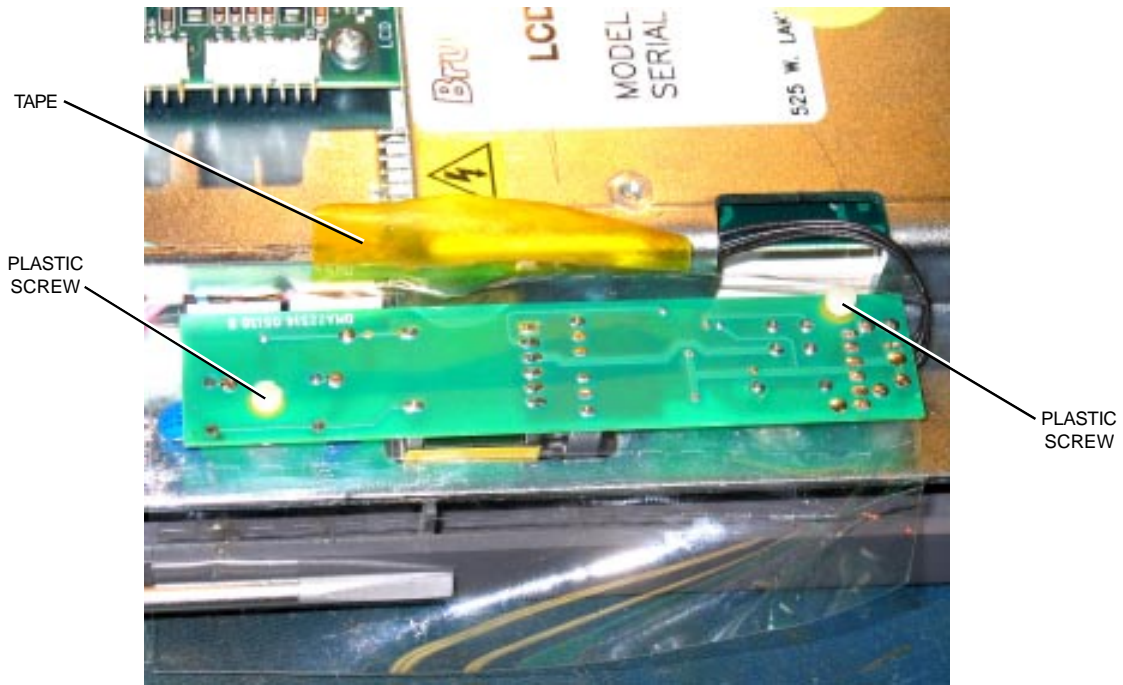

Figure 7
3. Remove the tape from the clear plastic cellophane and retain for reassembly. Refer to Figure 7.
4. Remove the two plastic screws and retain them for reassembly. Refer to Figure 7.
7. Reinstall the Inverter PCB, reusing the two plastic screws and spacers. *Refer to Figures 7 & 8.*